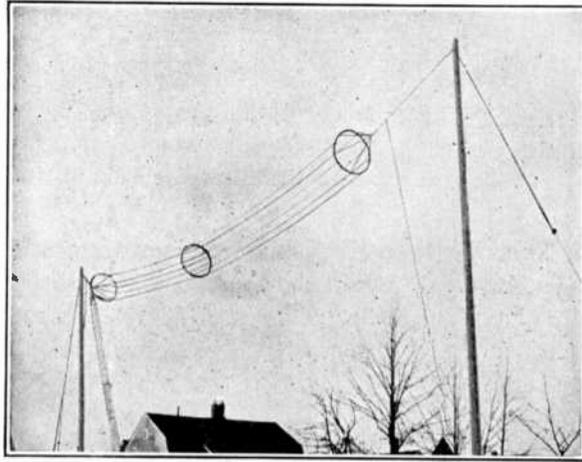

FIG. 44.—Cage type antenna with cage lead-in.
(3) *Cage type.* One type is shown in Figure 44. The cage antenna consists of a number of component wires spaced equidistant, held in position by hoop spreaders (insulated rings) forming a cylinder. The several antenna wires are brought together, or both ends may be closed in, with the lead-in conductor attached to either end, depending upon the installation. The diameter of the spacer ring is determined by the size of the cage desired. The spacing of wires in a cage form is useful in obtaining a maximum of capacitance in a limited space.